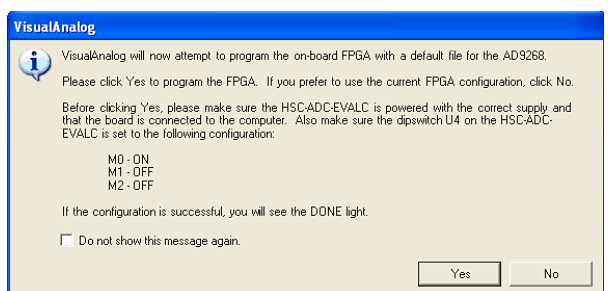

Figure 6. VisualAnalog Default Configuration Message
2. After the template is selected, a message appears asking if the default configuration can be used to program the FPGA (see Figure 6). Click **Yes** and the window closes.